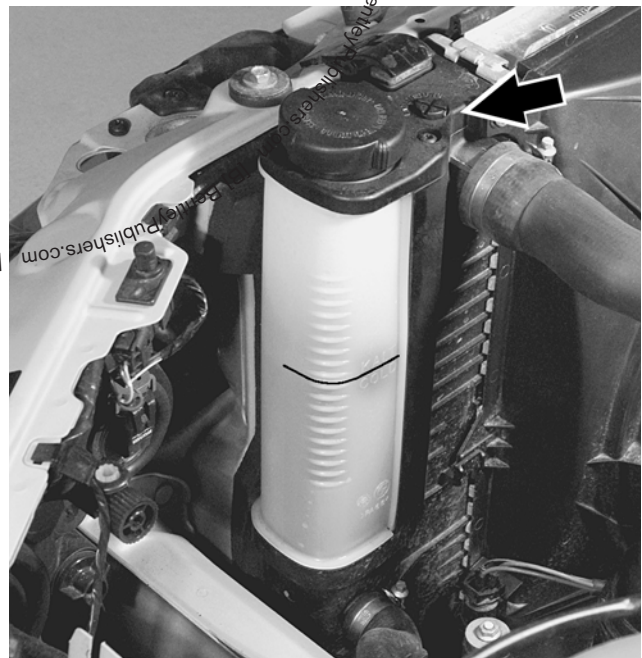

Fig. 7. Cooling system bleed screw on radiator (arrow). Note cold level mark on expansion tank.
1. With engine cold, loosen plastic bleed screw on radiator expansion tank. See Fig. 7.